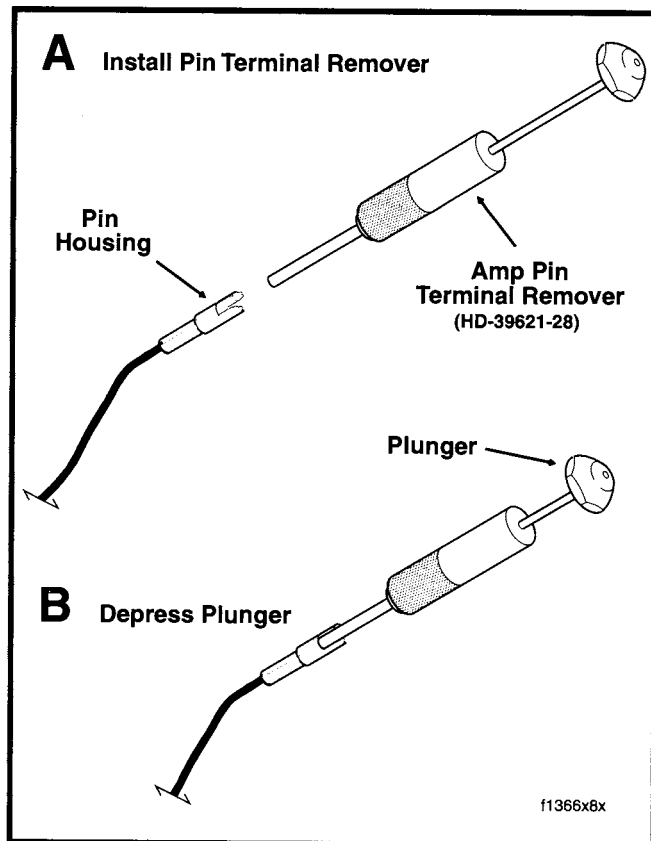

Figure 166. Remove Terminal from Amp Pin Housing
- Fit the barrel of the Amp Pin Terminal Remover (HD-39621-28) over the pin until it bottoms in the housing. See Figure 166.